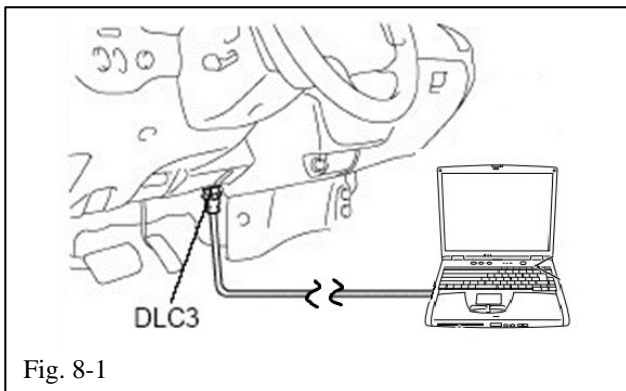

Fig. 8-1
- (a) Connect the Techstream to DLC3 (Fig. 8-1).